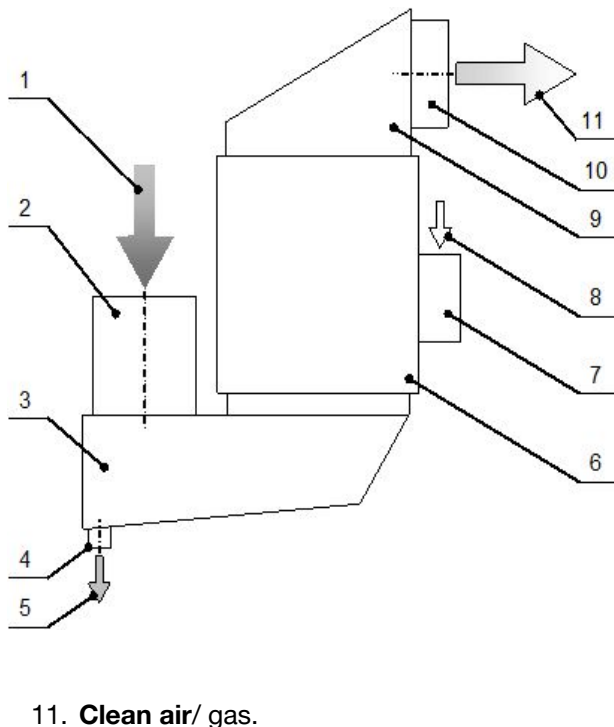

Figure 1. The multi vortex wet scrubber main components and the motion scheme of the air and the water.
The multi vortex wet scrubber design is very flexible. The dispersive grating of any desired area and configuration could be composed of the 12x12 inches grating blocks. Typically, but not necessarily, the cross-section of the multi vortex wet scrubber is rectangular. The boiling bed is uniform over the grating providing effective contaminants capture throughout the entire area of the grating. The block of the Box (9) and the Discharge pipe (10) could be designed as shown in Fig. 1 or rotated 90° to the right or to the left. The